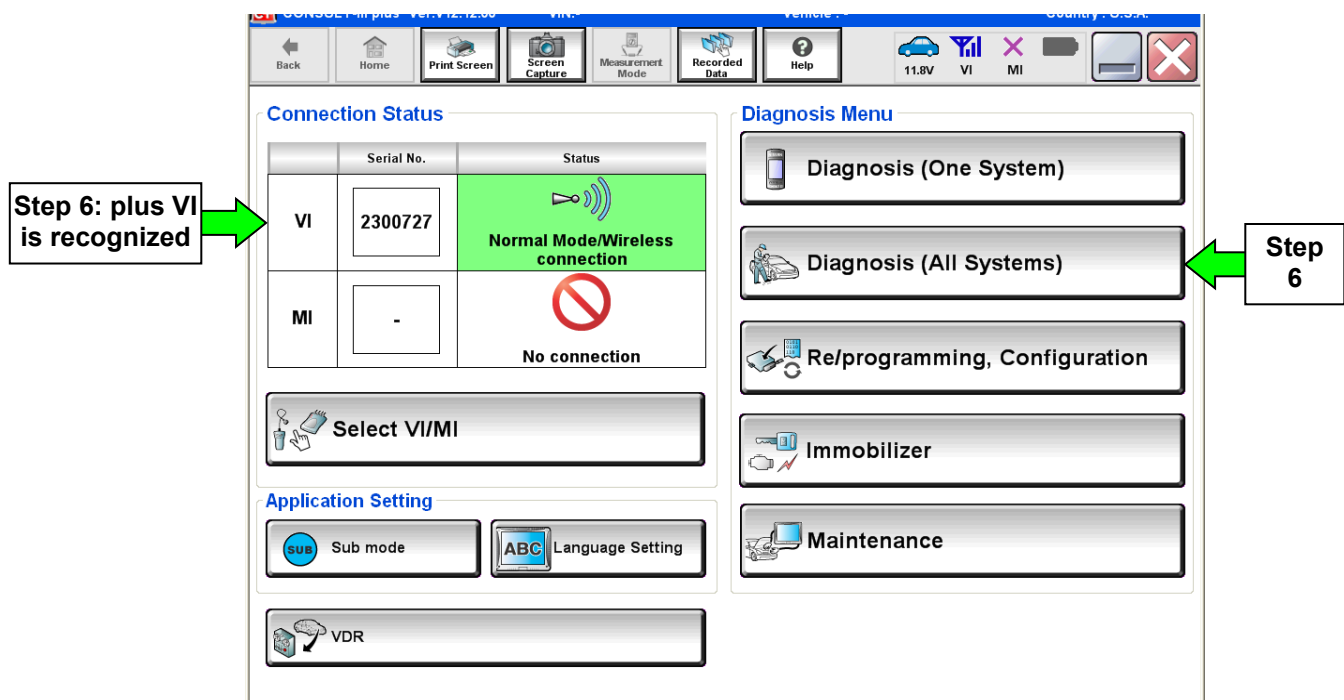

Figure 1
22. Select **Home** to return to the screen shown in Figure 1 on page 5.